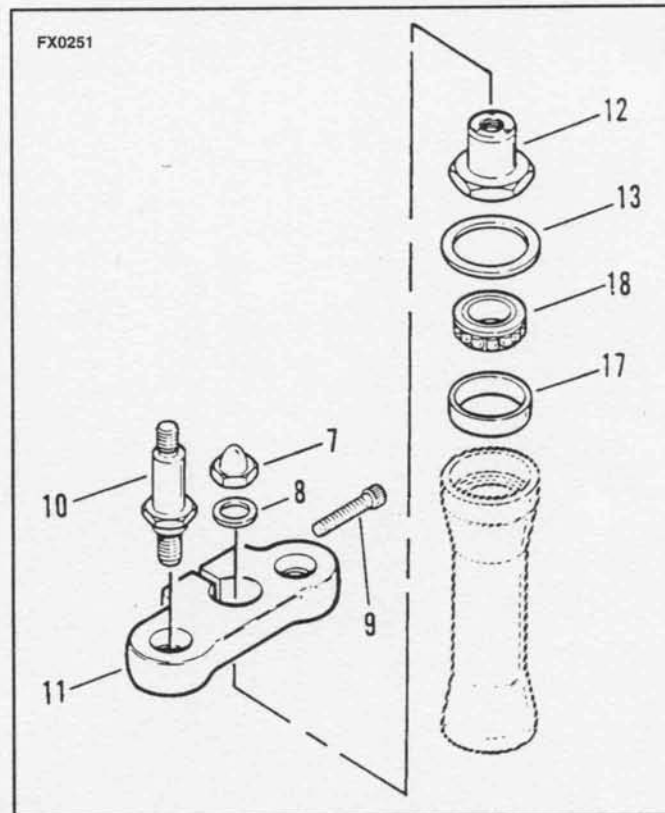

Figure 2-64. Steering Head
7. See Figure 2-64. Remove fork stem acorn nut (7) and rubber washer (8). Loosen the upper triple clamp pinch bolt (9).
8. Remove the rigid fork leg studs (10).
9. Remove upper triple clamp (11).
10. Remove hex bearing retainer (12) and dust shield (13).